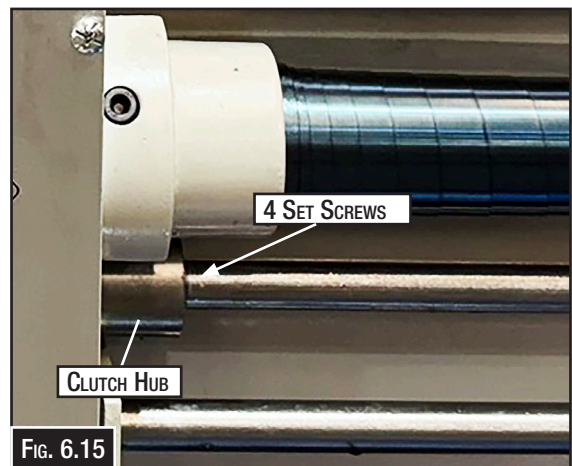

Fig. 6.15
3. If the clutch slips during normal work loads, increase the clutch spring pressure by tightening each of the four clutch drive set screws on the face of the clutch hub (Fig. 6.15) one full turn, then recheck for slippage. If the clutch does not slip when it should, reduce the clutch spring pressure by loosening each of the four clutch set screws one full turn, then recheck for slippage.